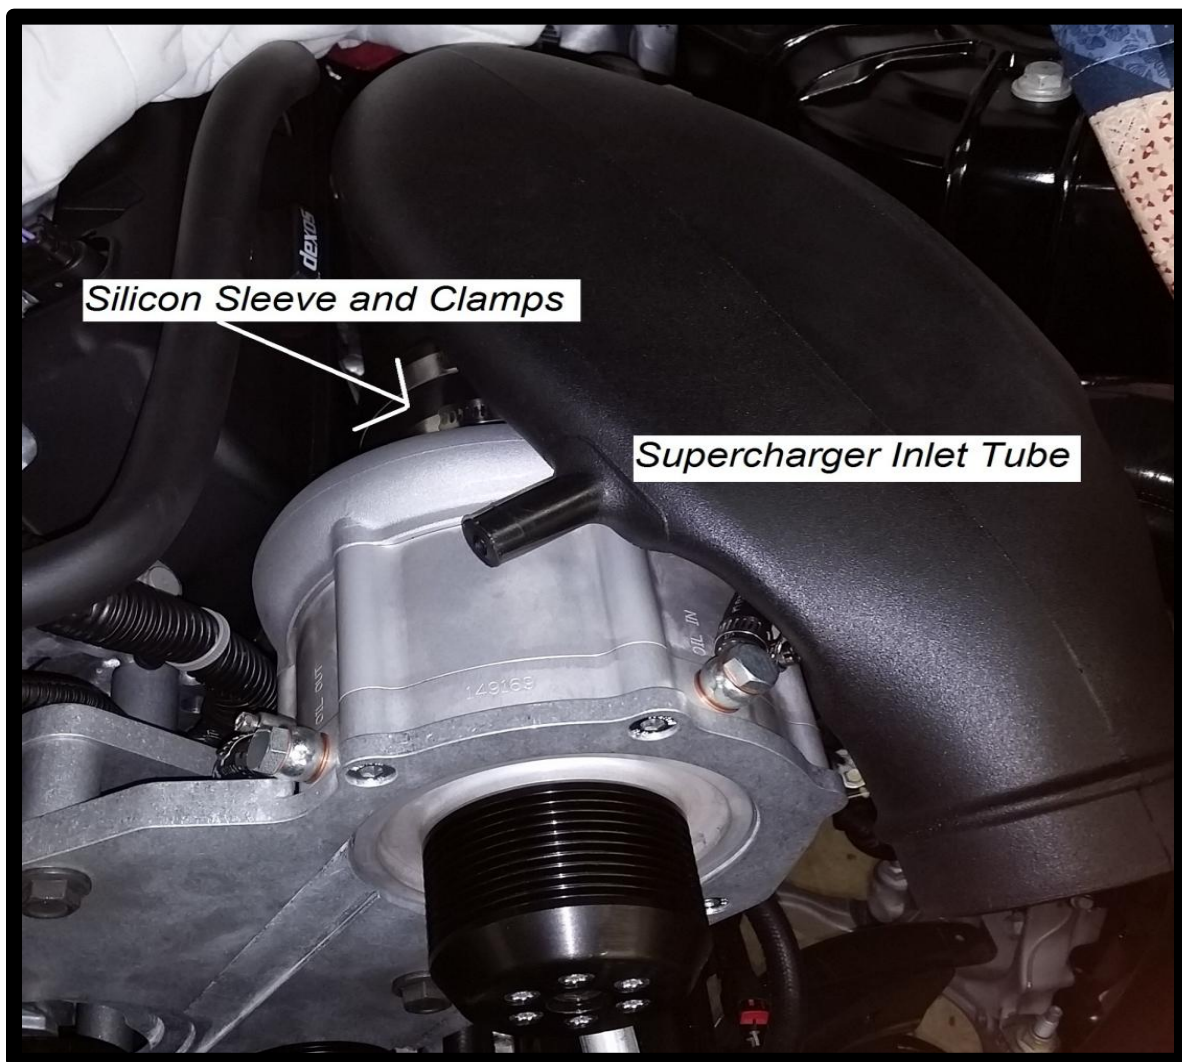
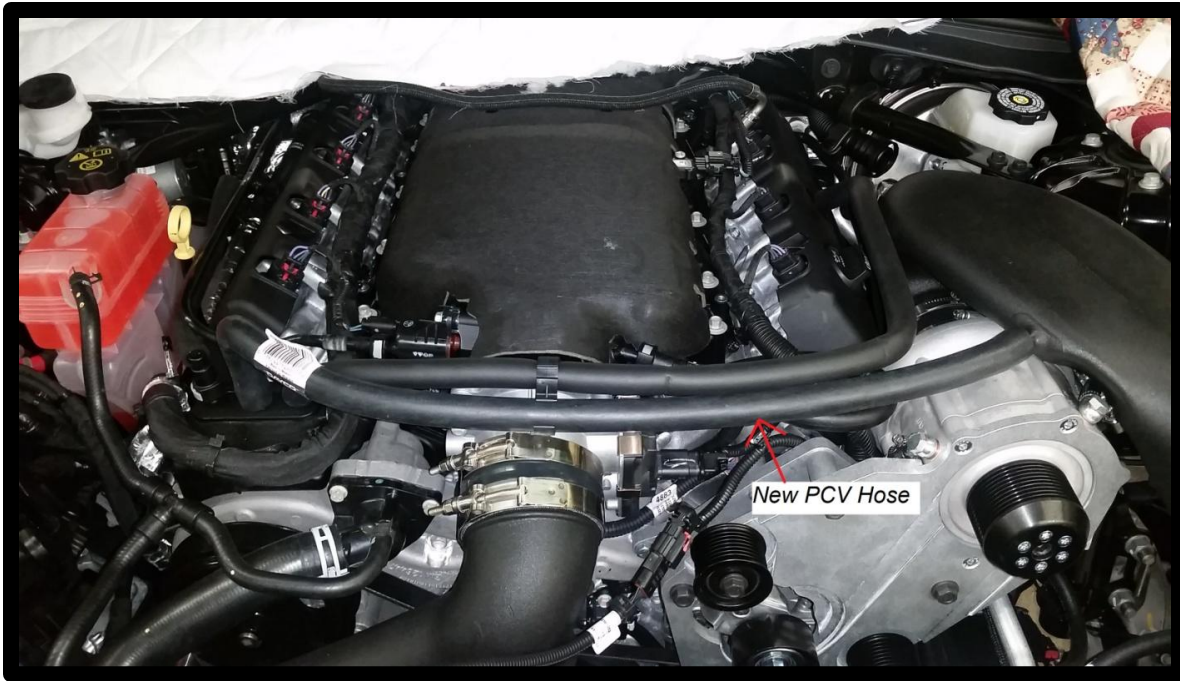

Figure 68: Supercharger Inlet Tube
Figure 69: PCV Hose to Supercharger Inlet Tube
32. The supercharger inlet tube and air filter should also be done at this point even though they will have to be removed to bleed the traction fluid system. The supercharger inlet tube uses two size 60 worm clamps and a silicon sleeve. Install the tube as shown in Figure 68 below and snug the worm clamps, do not tighten at this point as the tube will have to be removed later. At this point it is also a good idea to install the new provided PCV hose shown in Figure 69.